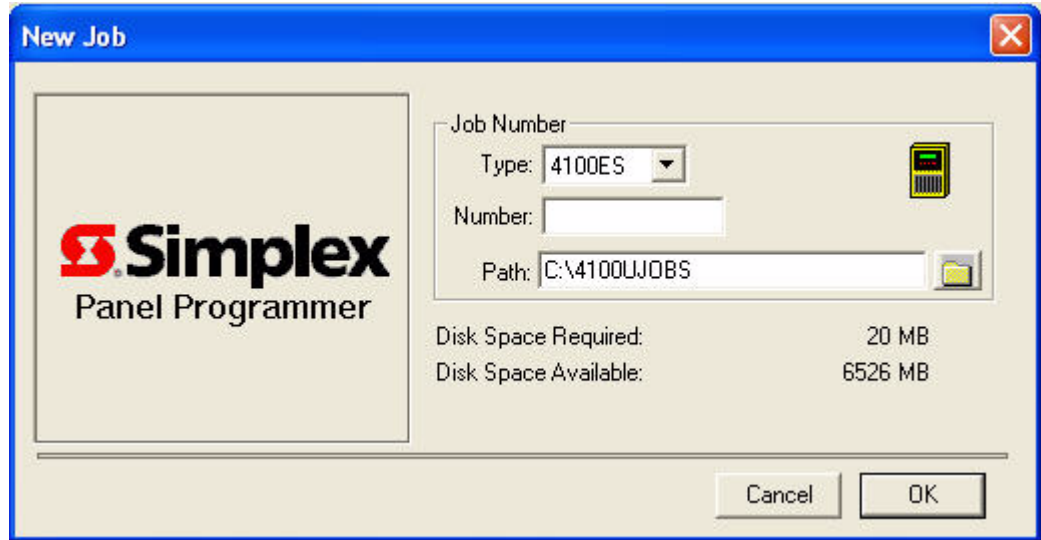

Figure 3-2. Create a New Job Dialog
A dialog similar to the one shown in Figure 3-2 appears.
- In the **Path** field of the Create New Job dialog (refer back to Figure 3-2), specify the directory path to which the job file should be stored. The default directory for a standalone panel is \4100UJOBS. (Network jobs default to \NETJOBS\SITENAME, where *SITENAME* represents the job's directory.) If necessary, use the folder icon to the right of the text entry field to specify an alternative directory or drive.